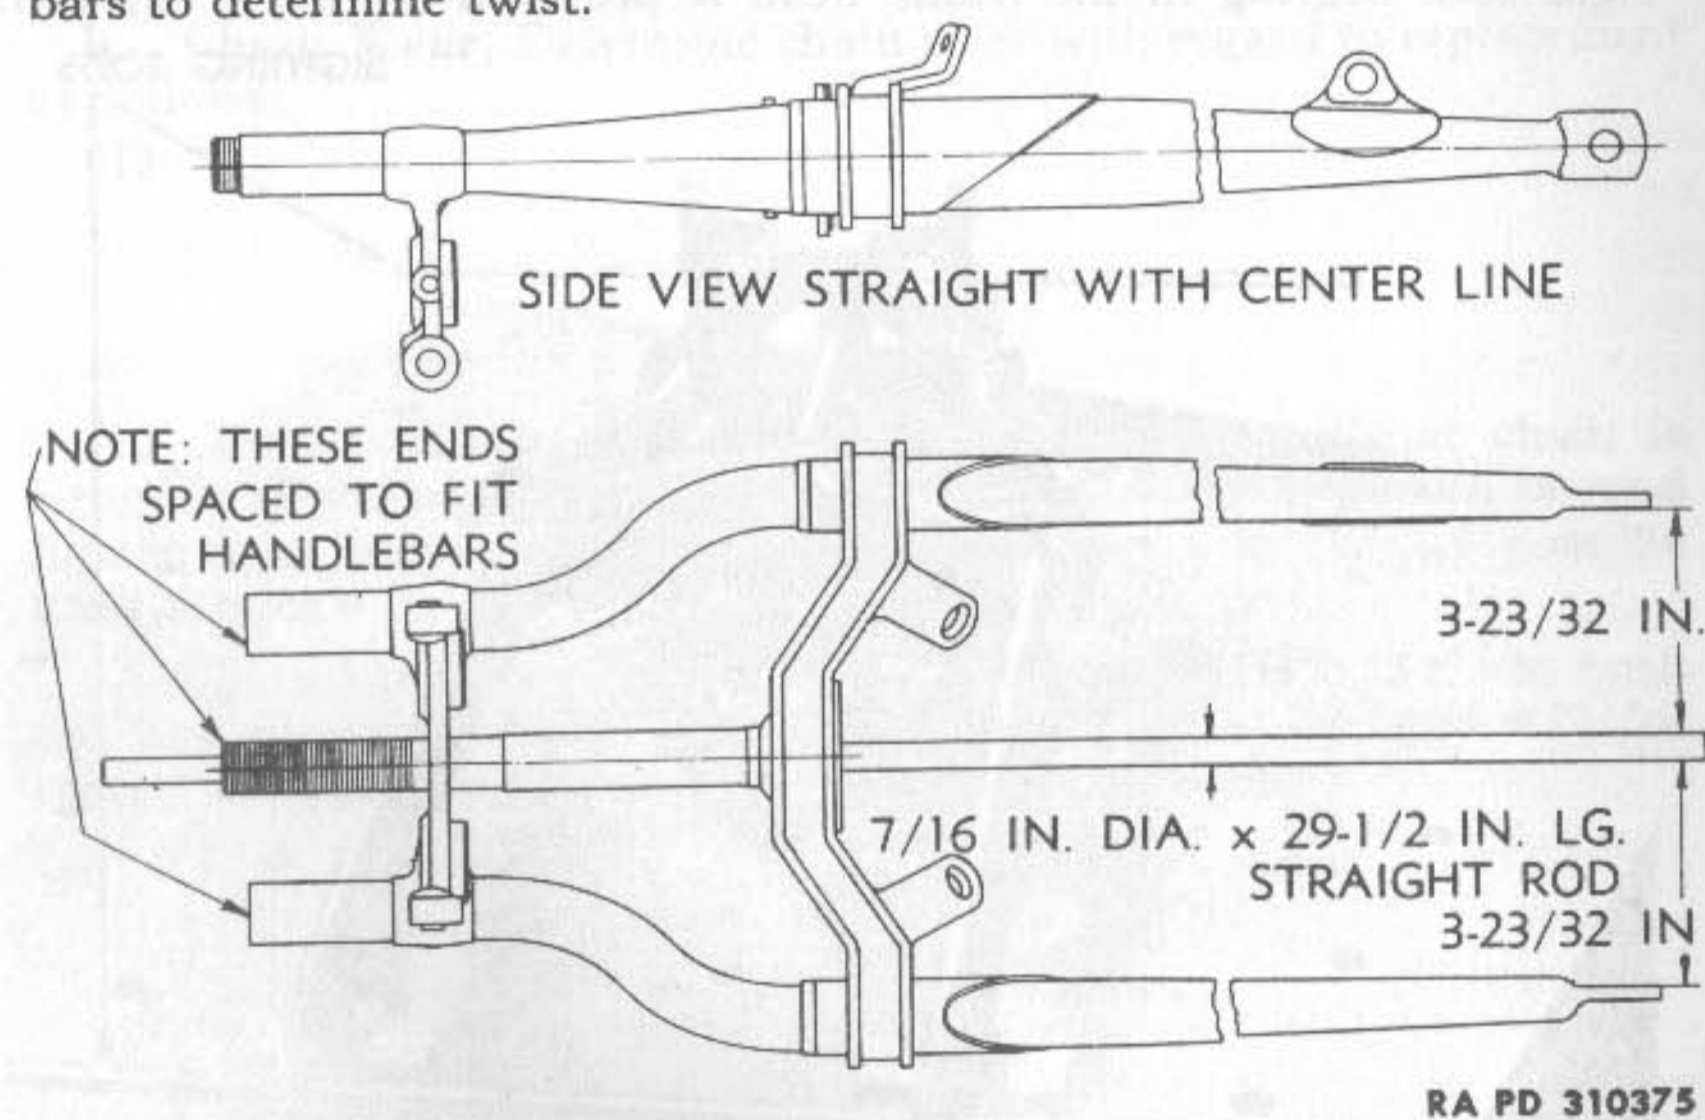

Figure 129—Dimensions for Fork Side and Fork Stem Alignment
(2) **CHECK FOR STEM AND FORK SIDE PARALLEL ALIGNMENT** (fig. 129). This is a rough check. Pass a $\frac{7}{16}$ inch diameter bar, 30 inches long, through the fork center stem. Measure distance between fork tips and test bar. When fork sides are parallel to center stem, distance will be $3\frac{23}{32}$ inches. See that fork upper ends are aligned to fit the handlebar bracket mounting holes.